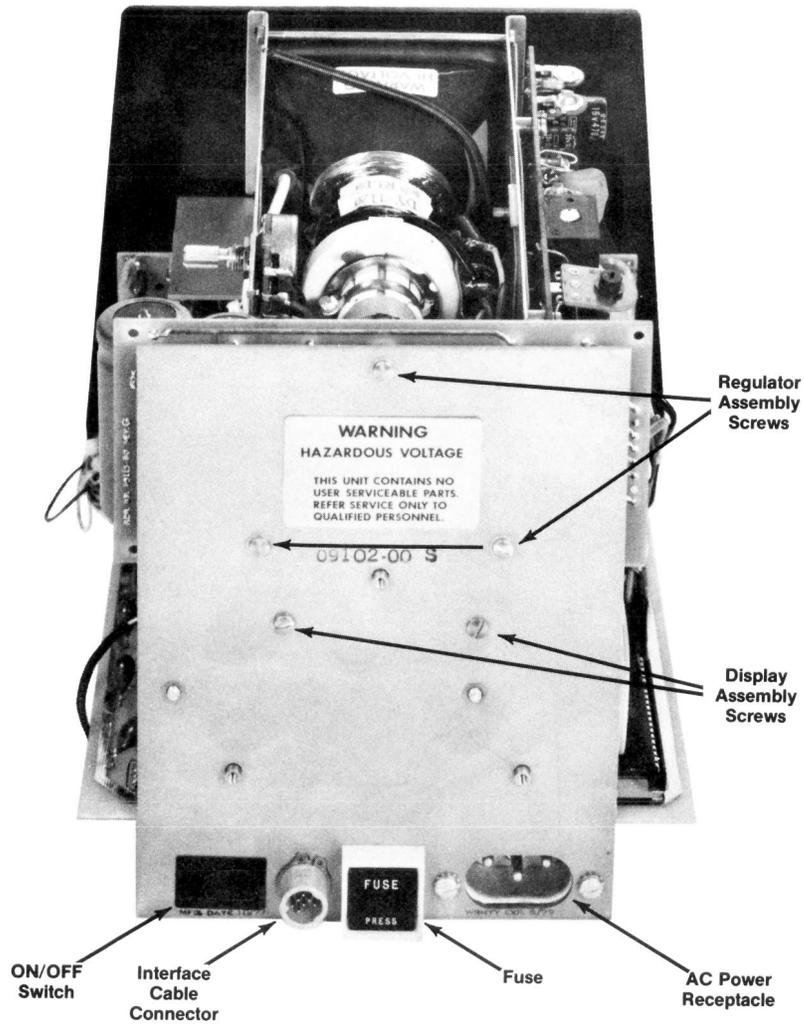

Figure 4, Rear View of Chassis
- e) Remove the three regulator support screws (#4-40) from the back chassis. (See Figure 4)
- b) Install the two bottom #4-40 screws into the back panel. Do not tighten. (See Figure 4)
- f) Remove the two display support screws (#4-40) from the back of the chassis. (See Figure 4)
- b) Install the two support screws (#4-40) in the back of the chassis. (See Figure 4)